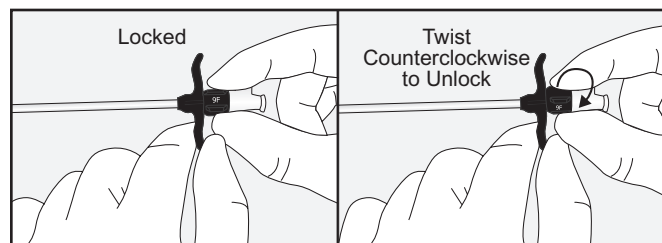

Figure 20: Unlock the Luer Lock
- Unlock the Introducer Set dilator from the sheath by twisting the luer lock counterclockwise (see Figure 20).